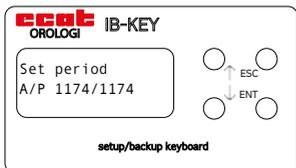

Fig. 2 - **A**: actual swing period;
4. Go to the QUICK SETUP menu and press ENT → Bell Detection will appear on the display, confirm by pressing ENT again. If an error message appears on the display (Sensor inactive or Stop bell), check that all the previous steps have been followed, particularly sensor activation (see point 2). The bell will begin to swing. Wait until both the swing periods are aligned, monitoring the data on the display (fig. 2).